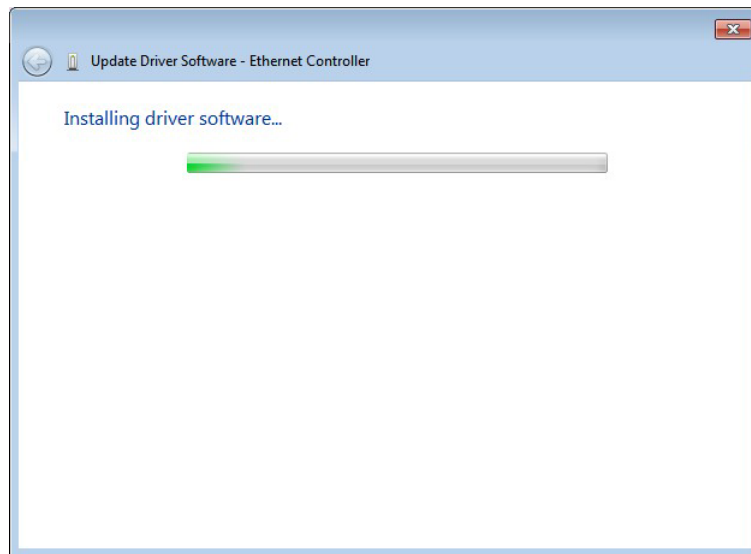

Figure 6-17: LAN Driver Installation
Step 11: Driver Installation is performed as shown in **Figure 6-17**.